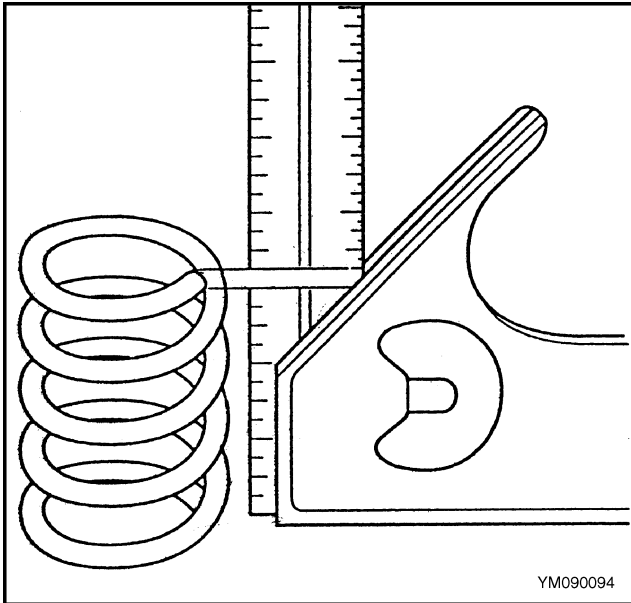

Figure 12. Valve Springs Inspect
5. Inspect the valve springs for squareness. See Figure 12.